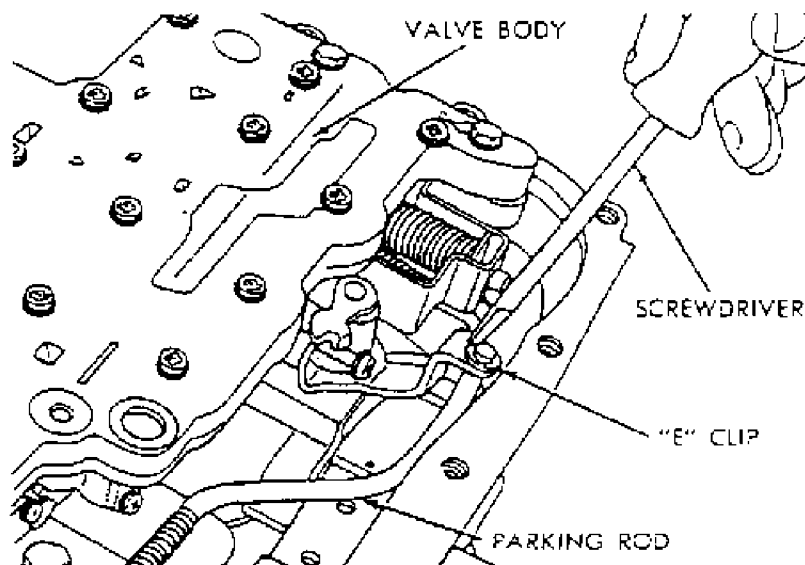

Figure 2
2. Remove the "E" clip retaining the park sprag rod to the valve body (Figure 2).